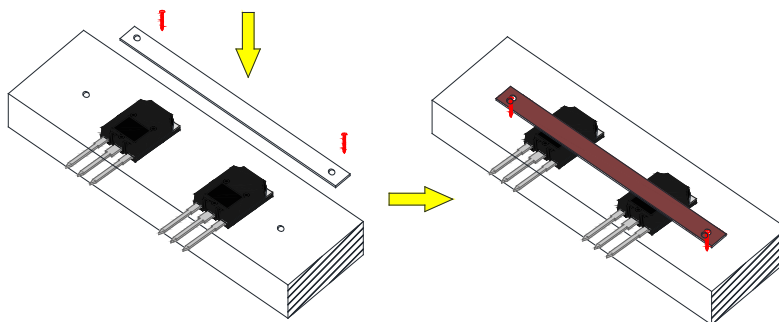

Fig. 18 Direct mounting with metal strip and bolts
- When multiple devices are used, metal strip with bolts at both ends can be used to fix the devices on the heatsink (as shown in Figure 18). The bolt torque should be less than 0.49N·M.